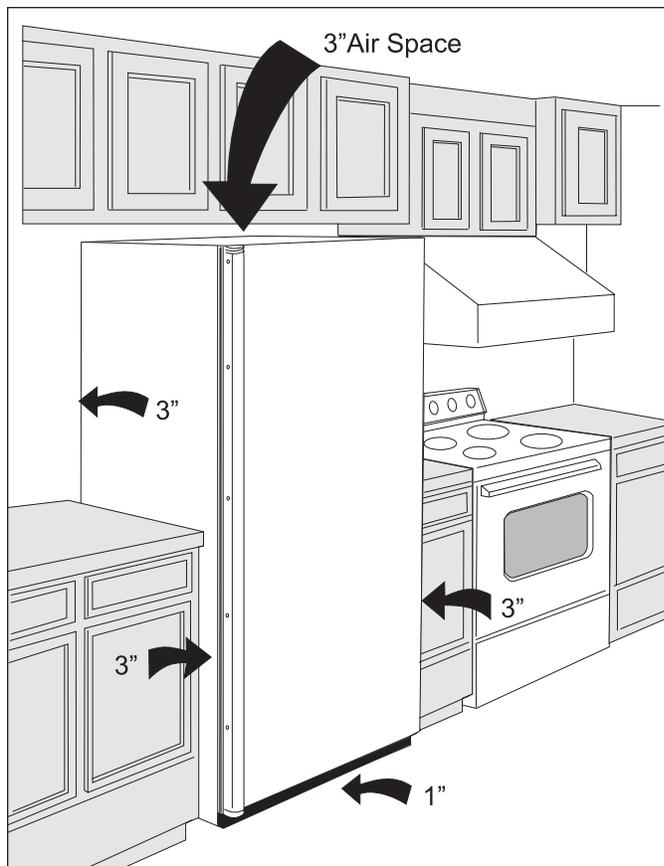

Figure 7-1. Installation Clearances
6. For ease of installation, proper air circulation and electrical connections, see Figure 7-1 for recommended clearances.